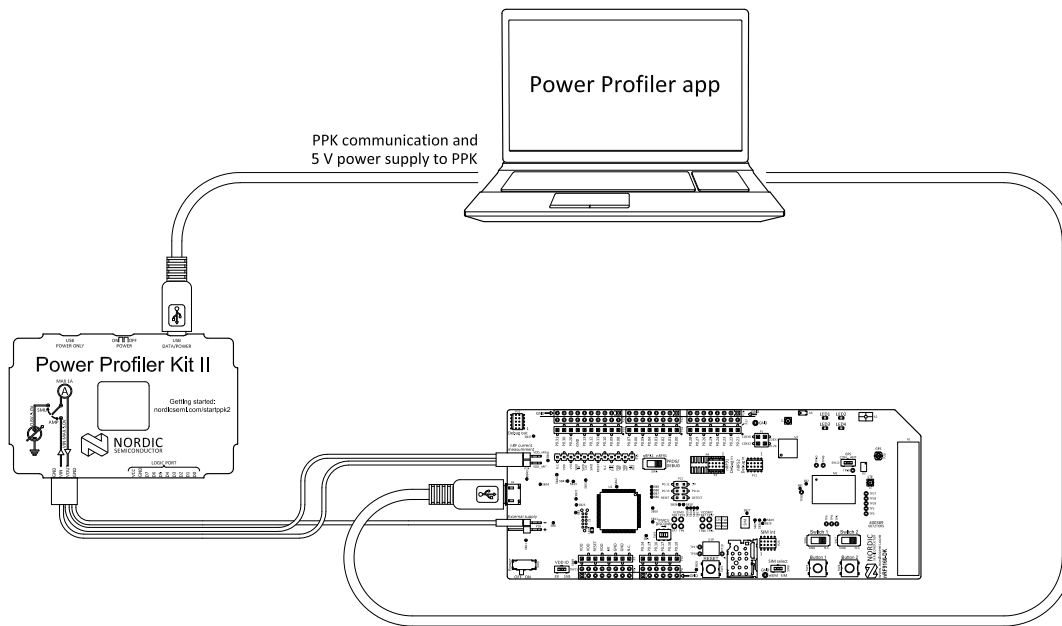

Figure 6: Measuring current in Ampere Meter mode
- If the PPK2 is set up to measure in Ampere Meter mode (see Figure 6: Measuring current in Ampere Meter mode on page 12), select **Ampere Meter**.